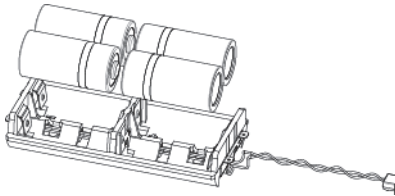

Figure 11
3. Insert the new battery while observing battery polarity (*see Figure 11*).
4. Insert the new battery while observing battery polarity (see Figure 11), and close the battery compartment cover.